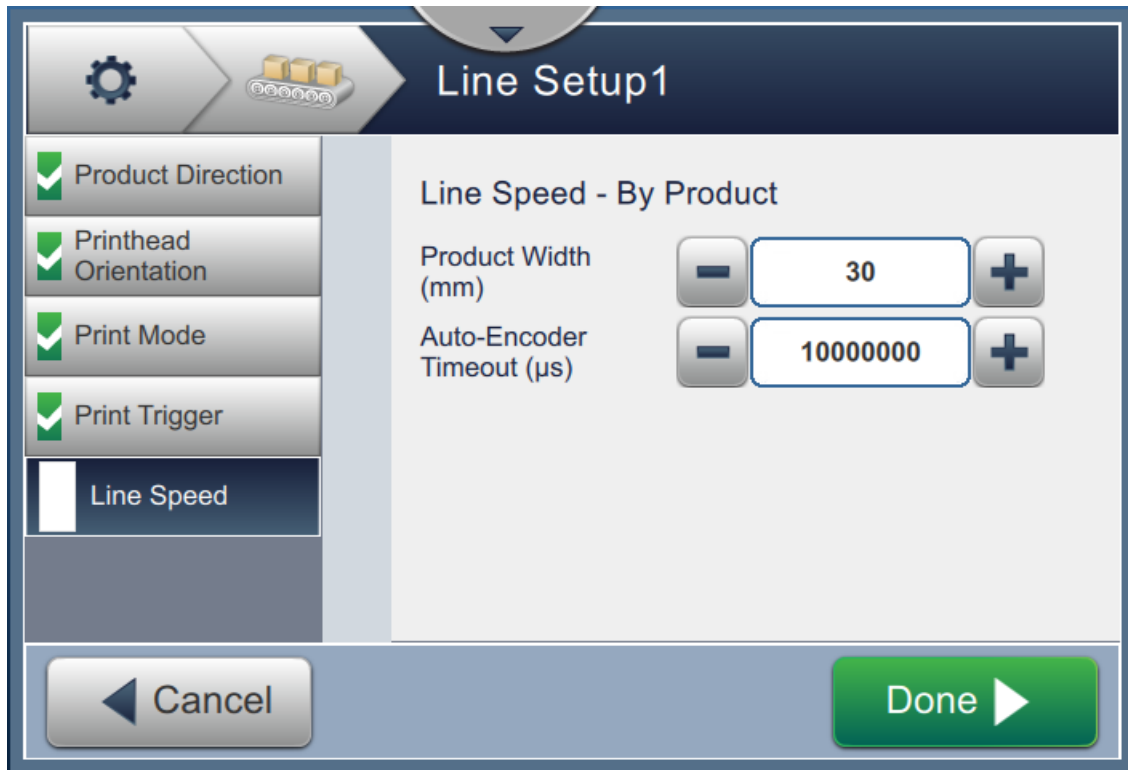

Figure 6-36: Line Speed - Measured by Product Size/Time Settings
2. Change the required parameters on the Settings screen as shown in Figure 6-36.